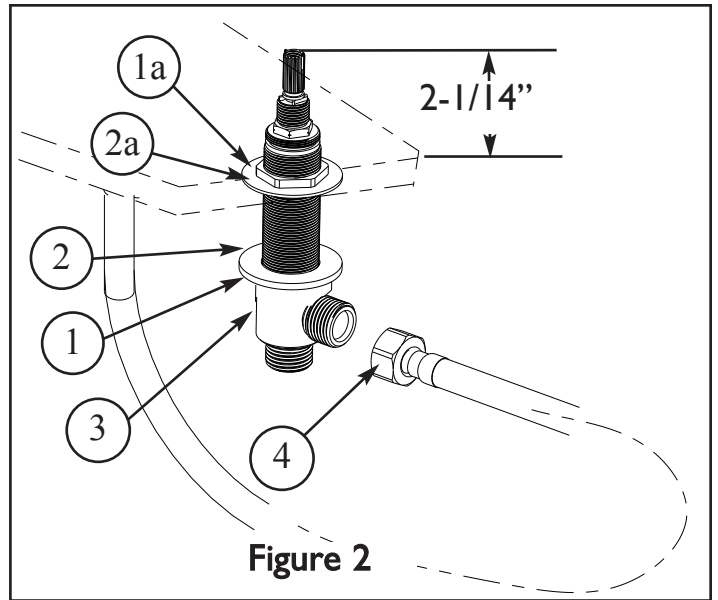

Figure 2
2. Place flange NUT (1) and fiber WASHER (2) onto valve BODY (3). Insert valve BODY (3) through sink hole from underside of sink. Valve BODY (3) should extend 2-1/4" above mounting surface. If necessary adjust lower flange NUT (1). Place fiber WASHER (2a) and flange NUT (1a) onto upper position of valve BODY (3). Set valve BODIES (3,3A) so that their outlets are facing towards the center of the sink and tighten upper flange NUT (1a). See Figure 2.
3. Connect HOSE (4) to outlet of each valve BODY (3). Hand tighten and secure each HOSE (4) with a wrench 1/4 turn. See Figure 2.